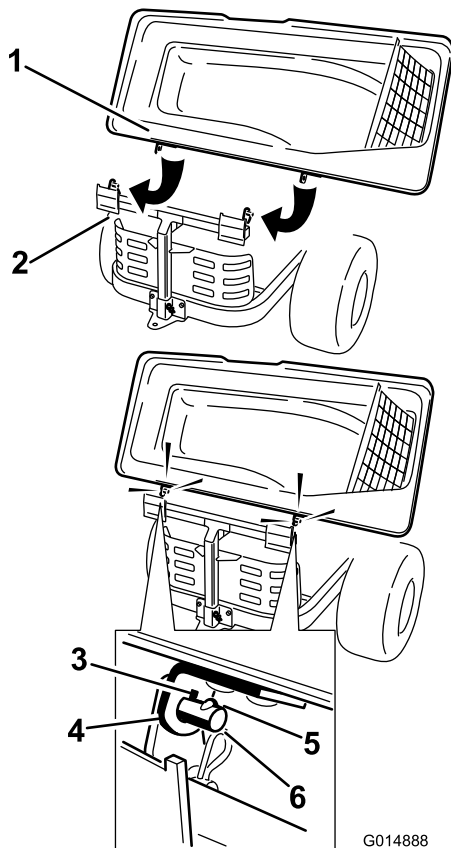

Figure 16
1. Install the bagger top to the bagger frame. Rotate the bagger top to align the key holes in the bagger top brackets with the keys in the posts on the bagger frame (Figure 16). Slide the brackets over the posts and rotate the bagger top down to the operating position.